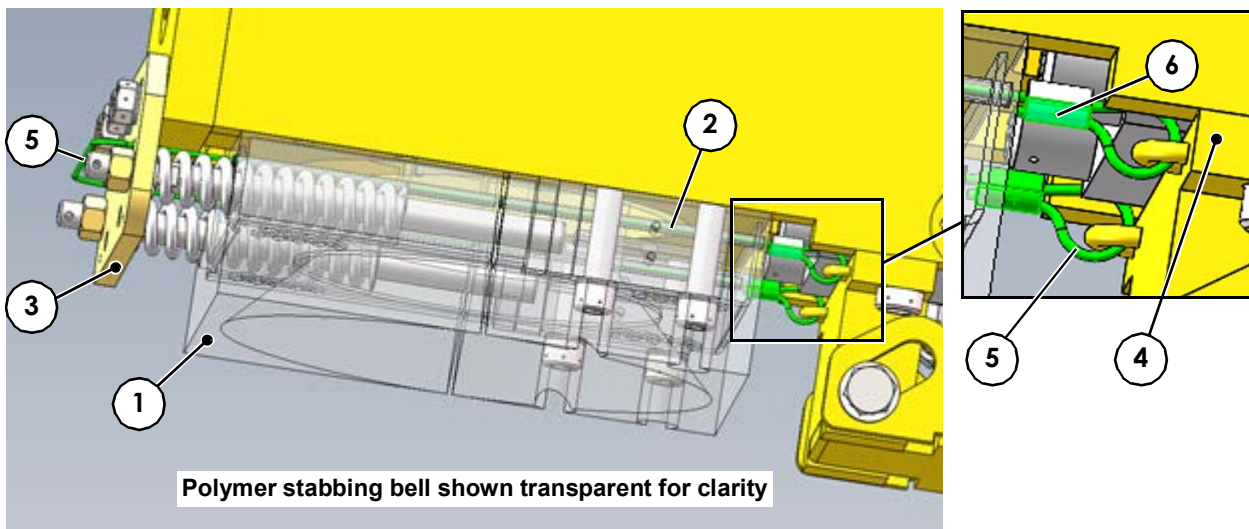

Figure 6: Polymer stabbing bell with safety securement installed
11. Re-install (item 1) polymer stabbing bell, (item 3) BUW retaining plate, and (item 4) BUW lower guard mount on back-up wrench gripper.
12. Loop (Item 5) wire rope through (Item 3) BUW retaining plate then through (Item 2) metal tubing pieces in (Item 1) stabbing bell and attach to half chain links on (Item 4) lower guard mount and crimp (Item 6) ferrules as shown in Figure 6.